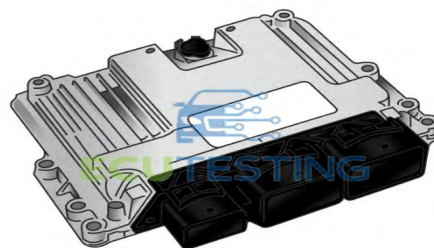

Figure 4.1: *Electronic Control Unit (ECU)*
1. **Electronic Control Unit (ECU):** An Electronic Control Unit (ECU), also known as an Electronic Control Module (ECM), is a computer system that controls various electrical systems in a vehicle. It acts as the “brain” of the engine and other vehicle systems, managing functions like fuel delivery, ignition timing, and emissions. Figure 4.1 shows an **Electronic Control Unit (ECU)**.